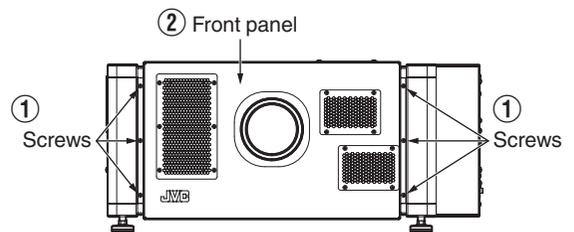

Fig.1
- 1 Remove the screws of 6 locations on the front panel with a Phillips screwdriver. (Refer to Fig.1)